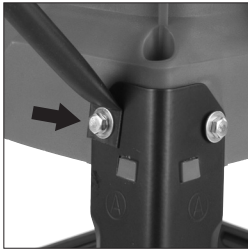

Fig. 9
- Insert the machine screw through the end of the support strut and refit the machine screw to the machine's main body. **(Fig. 9)**